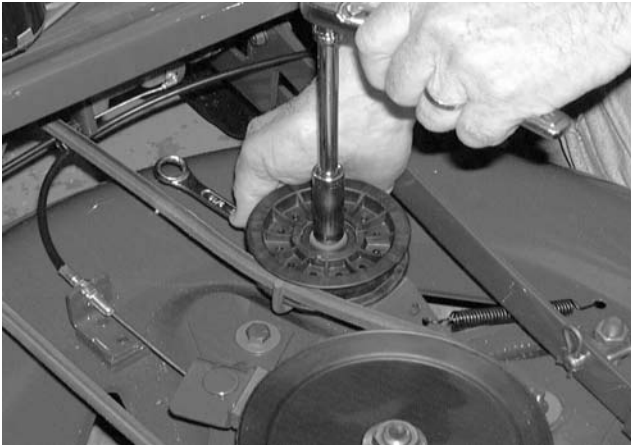

Figure 8-30.
8. Loosen the hex nut that secures the flat idler pulley to the idler bracket using a 9/16" wrench and a 9/16" socket. See Figure 8-30.